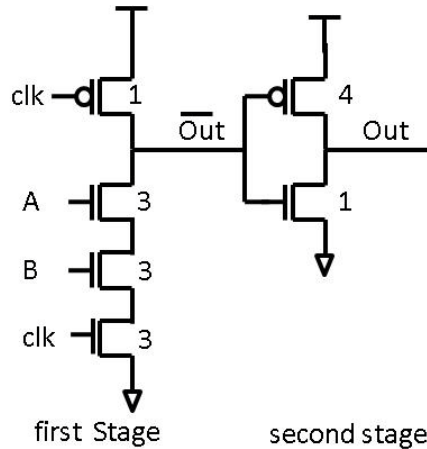

Fig.3a Domino Logic
- (b) (3 pts) A 4-input AND gate can be implemented by using three 2-input domino AND gates as shown in Fig.3a. We properly size each stage in the 4-input AND gate to minimize the delay of the evaluation phase. What is the minimum delay ($T_{p,EV}$) in the worst-case during the evaluation phase?